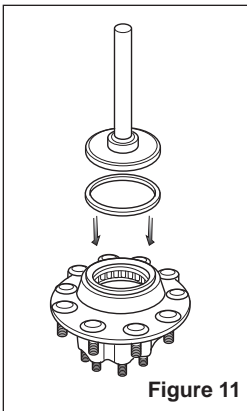

Figure 11
- Using ConMet ring installation tool (part number 107119) center the tool over the ABS ring. Each type of ring fits a corresponding diameter on the tool (see figure 11).